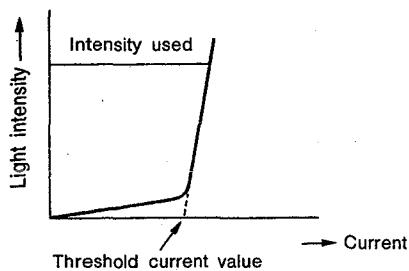

Fig. 10
(1) Semiconductor laser (Fig. 10)
As illustrated in Fig. 10, the current and light intensity characteristics increase abruptly once the threshold current value is exceeded.